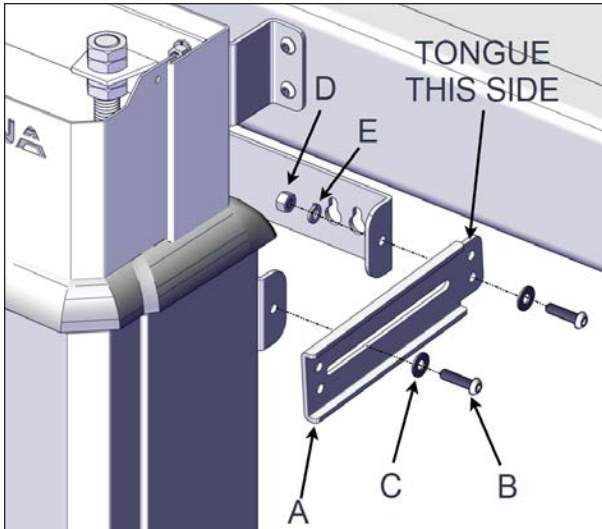
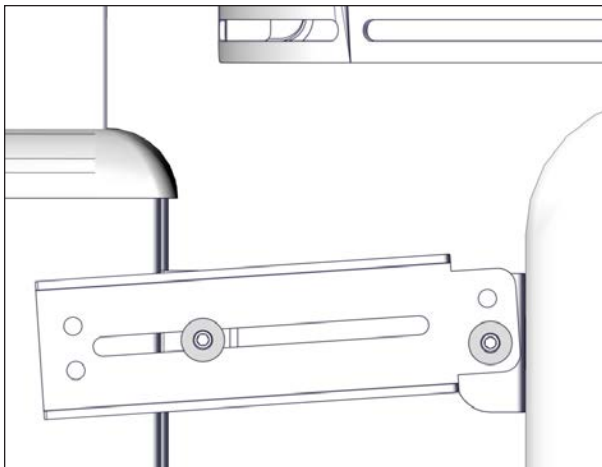

FIGURE 87: MOUNT BRACKET ARM INSTALLATION
FIGURE 88: MOUNT BRACKET ARM SIDE VIEW
20. Attach the top mount bracket arms to the tub mount brackets using the 1/4" x 1" socket head screws, 1/4" flat washers on the outside. Use a 1/4" lock washer and 1/4" nut on the inside. Use a 5/32" (4 mm) drive and 7/16" (11 mm) spanner, see Figure 87 and Figure 88
The rounded tongue section of the bracket should always be mounted on the spa side see Figure 87.